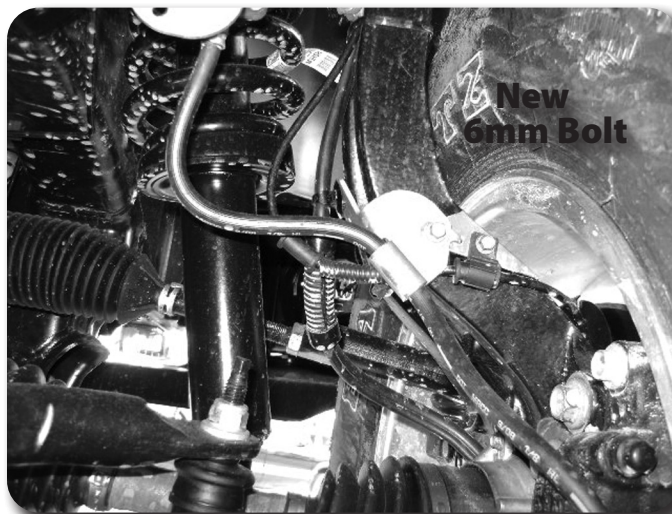

Figure 24
54. Attach the ABS line to the connector at the inner fender and the vacuum line to the hub. Route the lines similar to the factory setup down to the side of the knuckle. Attach the ABS wire with the factory 6mm bolt to the side of the knuckle. Attach the brakeline with a new 6mm x 18mm bolt with 1/4" washer to the side of the knuckle, the brakeline locating tab will go into the un-threaded hole. Figure 24